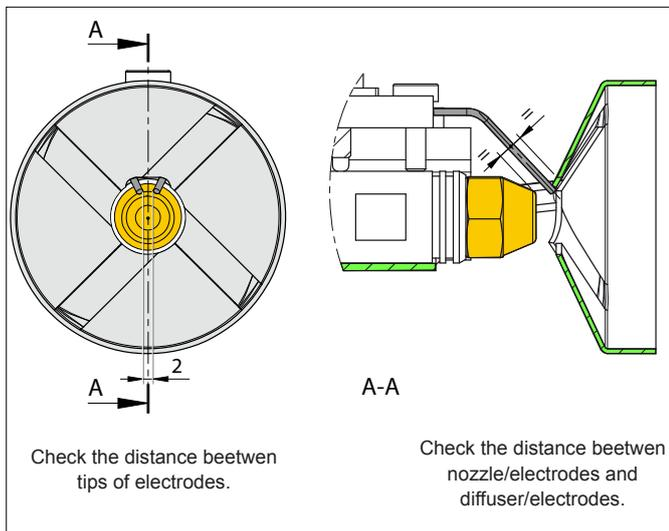

Figure 10-4: Ignition electrode settings
3. If the nozzle needs to be replaced – remove the diffuser/electrode assembly. Refer to Figure 10-4.
5. Re-fit the diffuser/electrode assembly. Refer to Figure 10-4. Re-connect ignition leads to electrodes.
6. Check/adjust the electrode setting. Refer to Figure 10-4. Always check the electrode settings after replacing the nozzle.
- Check/adjust the electrode setting. Refer to Figure 10-4
8. Check/adjust the diffuser position. Refer to Figure 10-4.